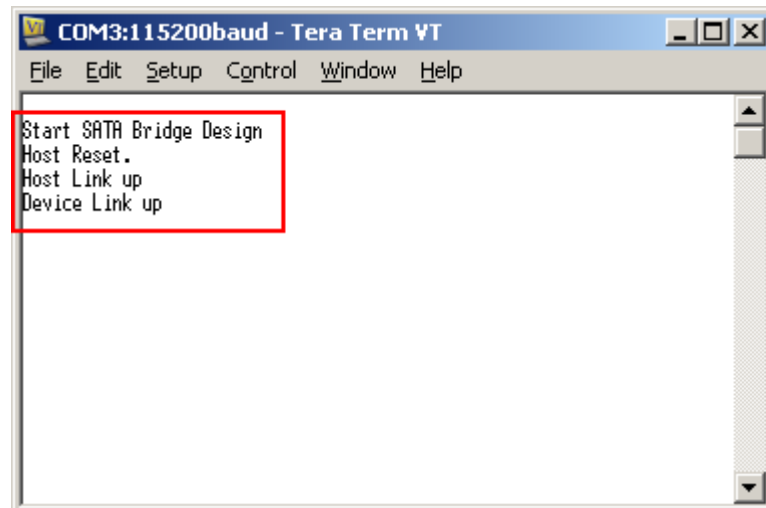

Figure 2-3 Boot message of bridge demo
- At serial console on PC, Boot message to show SATA status for both SATA sides will be displayed as shown in Figure 2-3. Now user can access the SATA device through Bridge design like typical disk.